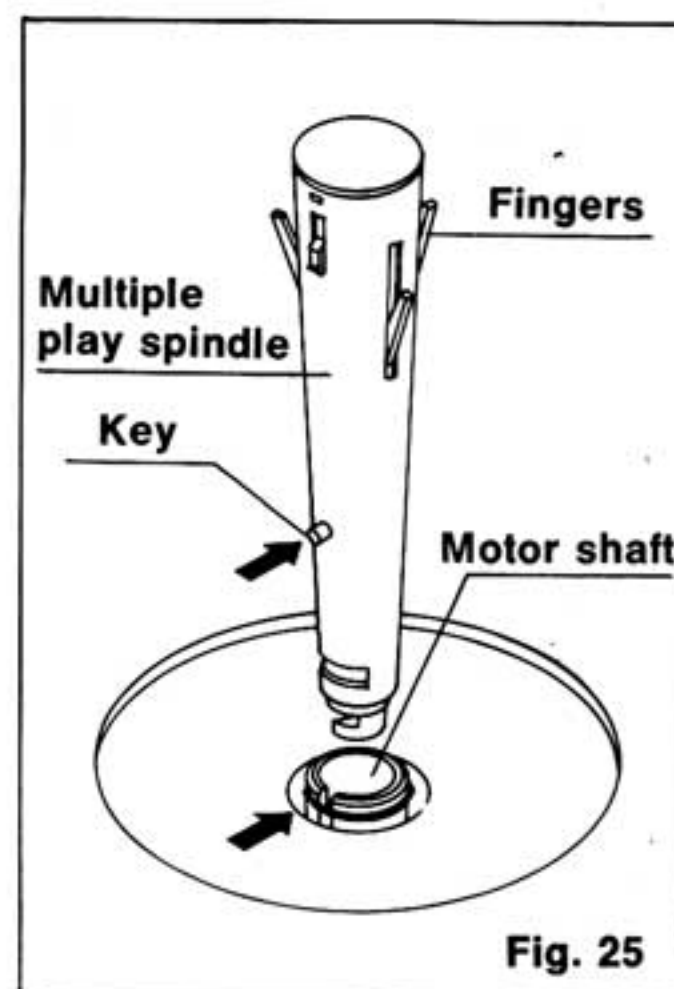

Fig. 25
- ① Insert the multiple-play spindle, aligning the key on its base with the slot of the motor shaft. (See Figs. 25 and 26)